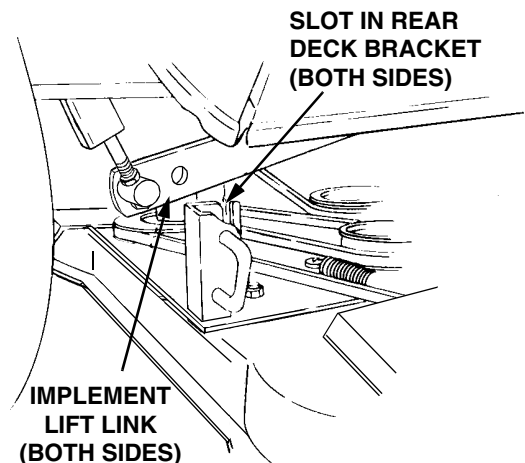

Figure 30
4. Raise the tractor implement lift handle to its highest setting and slide the deck under the tractor. Make sure the slot in each rear deck bracket aligns with the implement lift link on each side of the tractor (Refer to Figure 30).